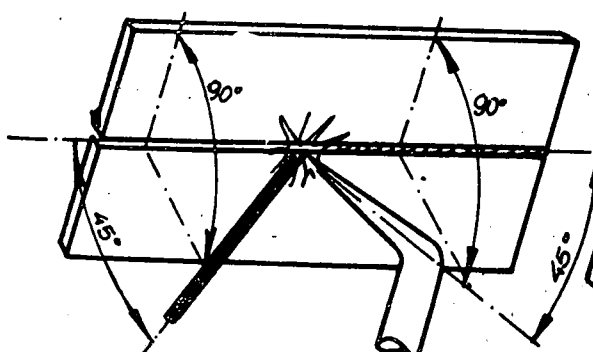

Fig. 1
- a) Incline the tip and the filler rod (fig. 1).